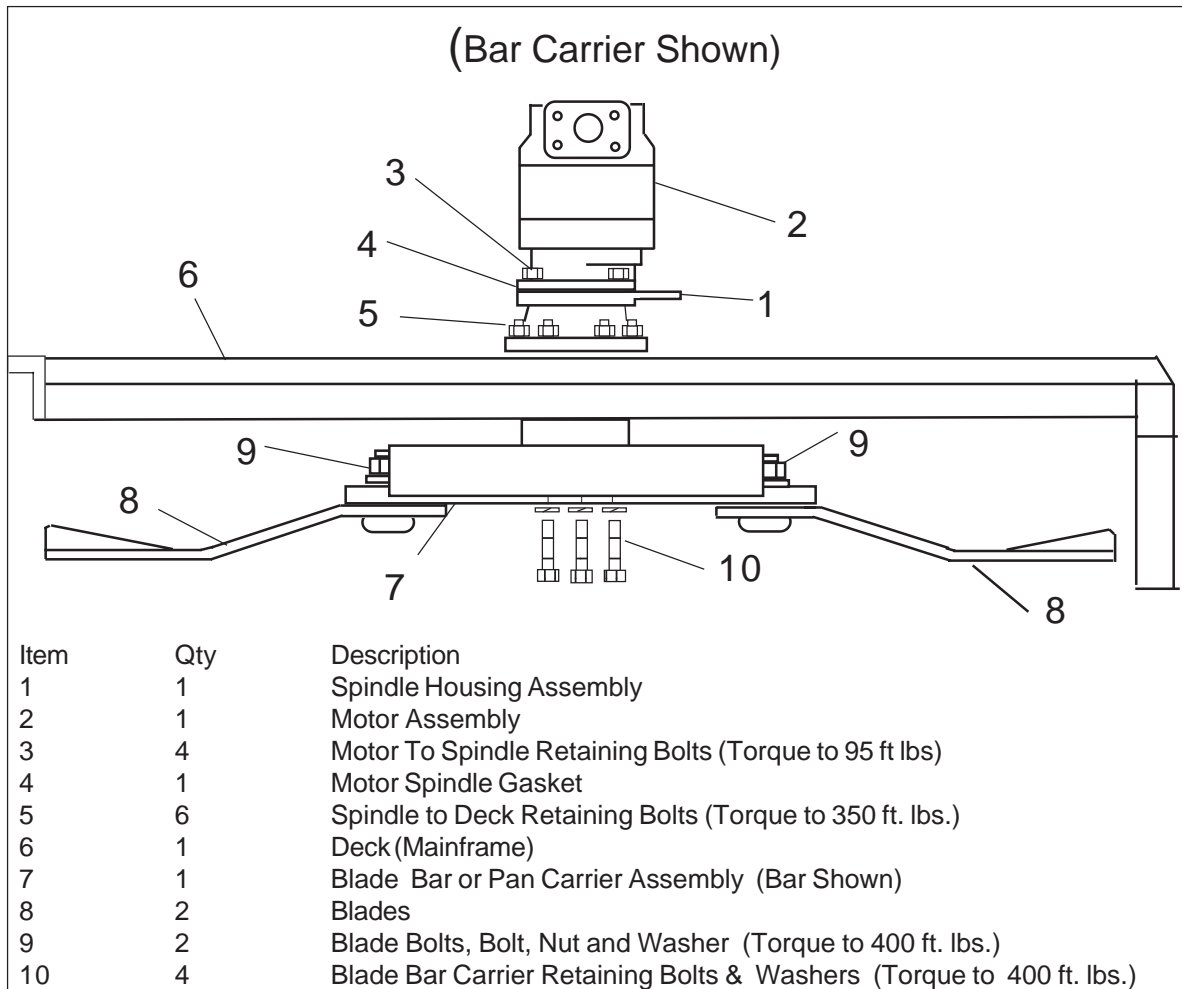

Figure 34
3. Mount Motor onto Spindle. The motor bolts to the spindle with 1/2" grade 8 bolts. Install a new gasket between motor and spindle. Torque the 1/2" bolts to mount motor to spindle to 95 ft. lbs. (figure 34)
4. Mount Spindle to deck use 3/4" bolts with lock nuts. Torque the 3/4" bolts to 350 ft. lbs. (figure 34)
BOLTS of different lengths are used for the installation of the blade bar or pan blade carrier attachment to the spindle shaft. The required length is dependant on which carrier is used. DO NOT change the length of the bolts on the carrier installation, use only the length that came with the mower. The spindle shaft and spindle componets can be damages if longer bolts are used as well as the blade carrier can not be torqued properly. See Parts Manual for correct part numbers. (figure 34)